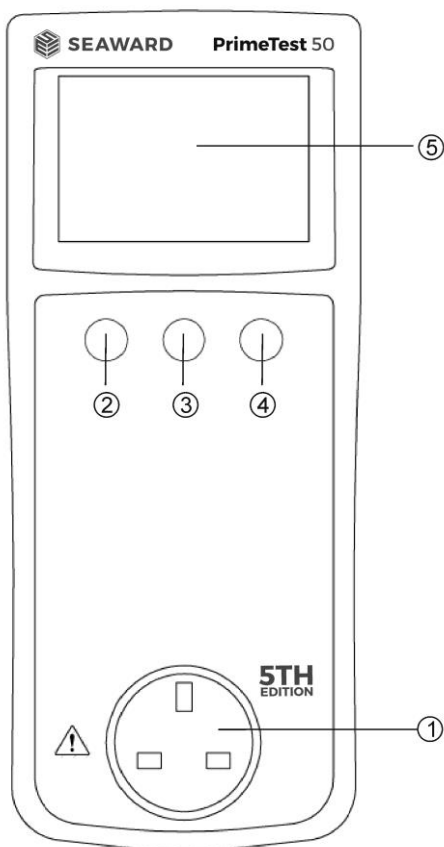
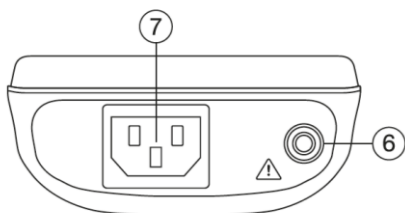

Figure 1. PrimeTest 50 Front View
Figure 2. PrimeTest 50 End View
Numbers shown in circles e.g. ① refer to figure 1 and figure 2 on page 6.